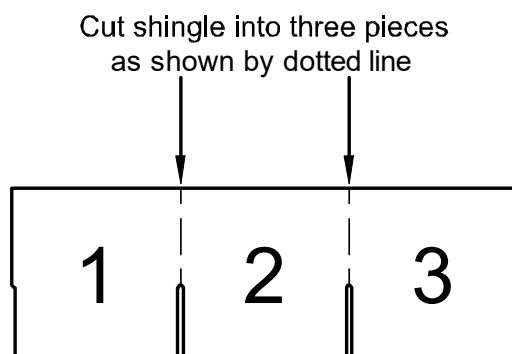

Figure 43. Shingle cut into thirds
3. **Install shingle cap.** Starting at the opposite end of the home from the prevailing wind, install ridge cap shingles provided by the manufacturer or use 12" x 12" shingles (36" shingles cut into three equal pieces) (**Figure 43**). Install using 1" x 1" x 16 ga galvanized staples or 12 ga 1-1/4" long, 3/8" diameter head roofing nails spaced 5-5/8 inches from bottom edge and 1/2 inch to 1-1/2 inches in from both edges. Cover the exposed fasteners with tar or cement.